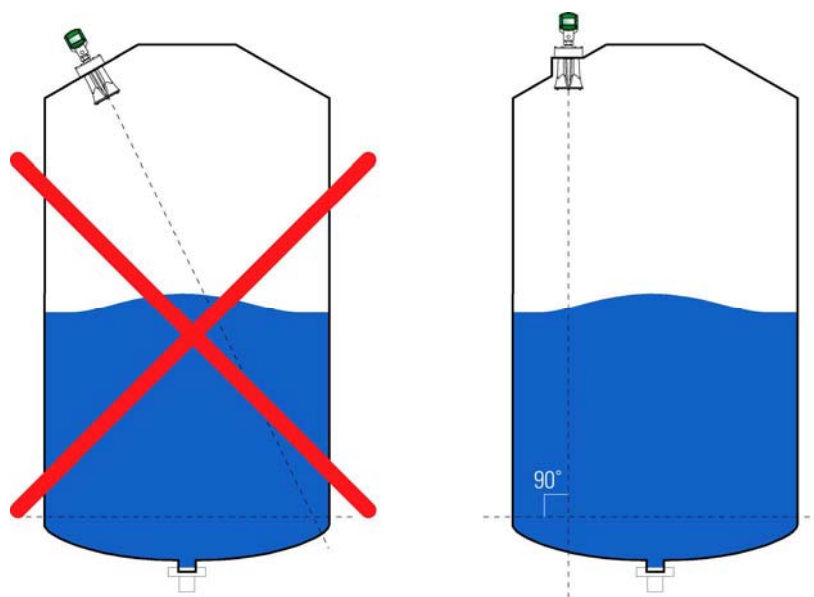

Figure 8 Mounting Positions
- ⦿ The scanner must be mounted in a vertical position so that the horns/antennas are at a 90° angle to the ground, as shown in *Figure 8*.